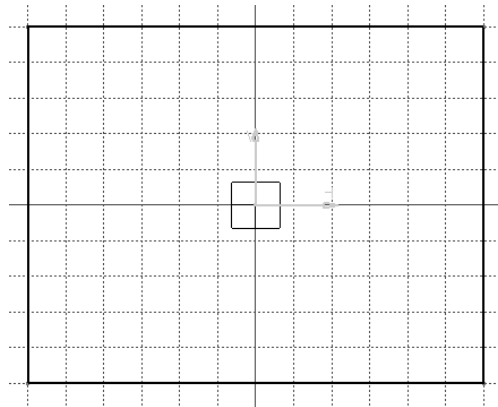

Figure 2-41 The outer loop of the sketch
- b. Draw the sketch of the model using the **Rectangle**, **Profile**, and **Circle** tools, refer to Figures 2-41 through 2-43.
3. Move the cursor to the location whose coordinates are 60,50 and specify the upper right corner of the rectangle. Figure 2-41 shows the outer loop of the sketch drawn using the **Rectangle** tool.